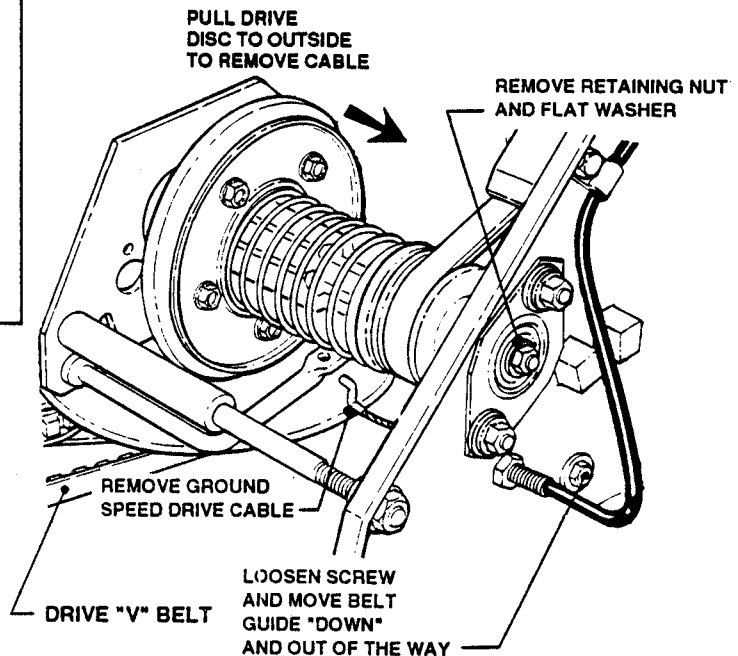

FIGURE 24
5. Remove Ground Speed Drive Cable. See Figure 24.
6. Loosen Belt Guide and move "DOWN" and out of the way. See Figure 24, above.